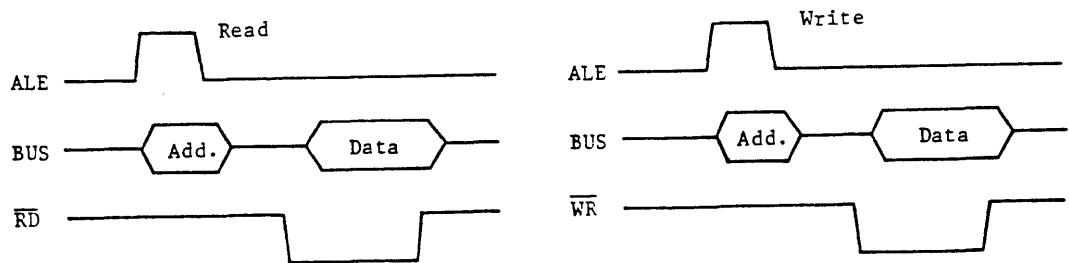

Fig. 6 Timing of Accessing External Data Memory
- Figure 6 illustrates the timing of accessing the external data memory during execution of external program.
(3) Interface with I/O Expander (TMP8243P)